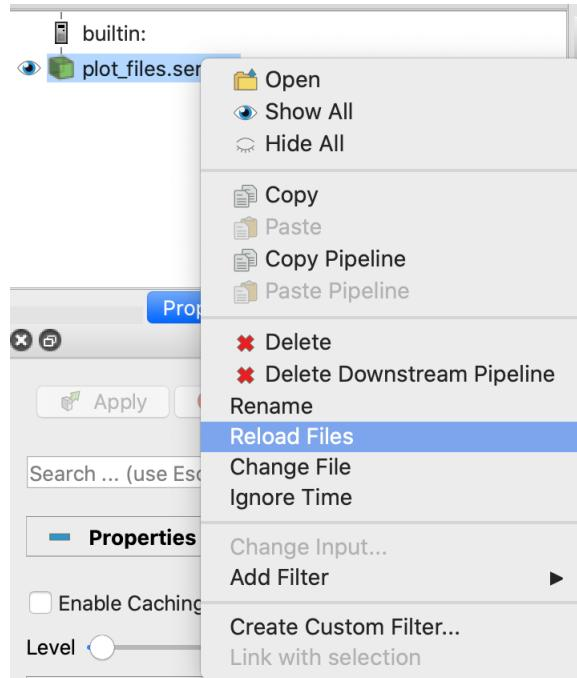
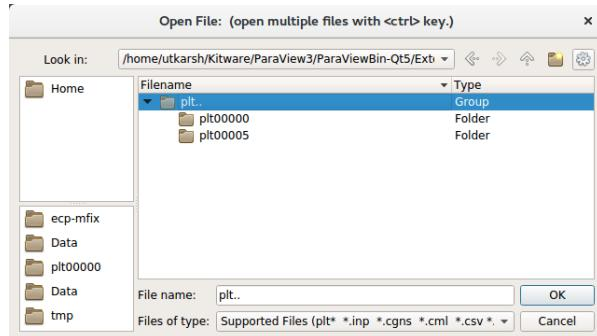

Fig. 18.2: : File dialog in ParaView showing how to reload a series file
Fig. 18.3: : File dialog in ParaView showing a group of plotfile directories selected
2. Navigate to your run directory, and select the fluid or particle plotfile. Note that you can either open single/multiple plotfile(s) at once by selecting them one by one or select an ensemble of file, labelled as `plt..` and indicated as a Group in the “Type” column of the file explorer (see Fig. 18.3). In the later case, Paraview
Open ParaView, and then select “File” → “Open”. In the “Files of Type” dropdown menu (see Fig. 18.3) choose the option All Files (*). Then choose `plot_files.series` and click “OK”. Now the plotfiles have been loaded as a Group as in Step 2 of section *ParaView*. Now, you can follow the steps 2 to 7 in the section *ParaView* to plot. As new plotfiles are generated, just re-run the bash script to re-generate the `plot_files.series` file, right-click on `plot_files.series` in the ParaView menu, and click on “Reload Files” (see Fig. 18.2).
1. Run ParaView v5.7, and select then “File” → “Open”. You will see a combined “plt..” group. Click on “+” to expand the group, if you want inspect the files in the group. You can select an individual plotfile directory or select a group of directories to read them a time series, as shown in Fig. 18.3, and click OK. ParaView will ask you about the file type – choose “AMReX/BoxLib Particles Reader”.